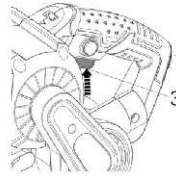

figure 13
- Start the tool by pressing the On/Off switch (3) (figure 13).
- Stop the tool by releasing the On/Off switch (3).